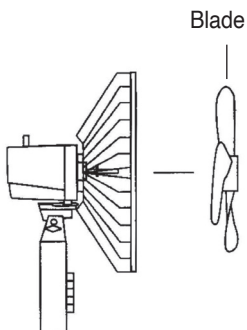
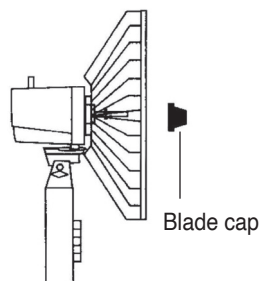

Fig. 3
Fig. 4
3. Slide blade on motor shaft and secure with blade cap by turning counterclockwise. (Fig3 and Fig 4)